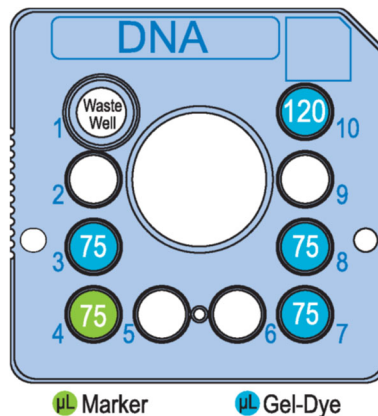

Figure 3. Reagent placement for pDNA Chip.
- 5 Using a reverse pipetting technique, add Gel-Dye solution to chip wells 3, 7, 8 and 10 as shown in Figure 3.
- 6 Add pDNA Marker (green cap ●) to chip well 4 as shown in Figure 3.